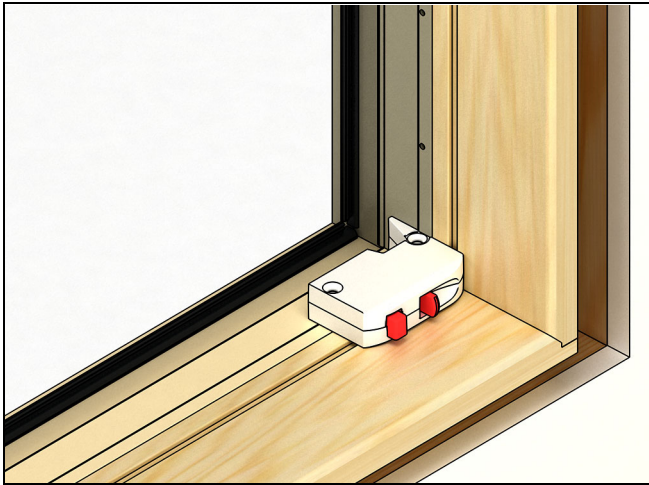

Figure 3 WOCD housing positioning.
9. Position the WOCD housing so the lock lever is closest to the locking-side jamb. See Figure 3.